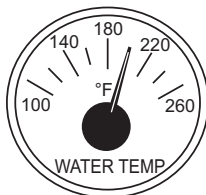

Figure 51. Coolant Temperature Gauge
8. The **coolant temperature gauge** (Figure 51) will indicate the coolant temperature. Under normal operating conditions the coolant temperature should be between 185°–207°F (85°–97°C) (**Green Zone**).